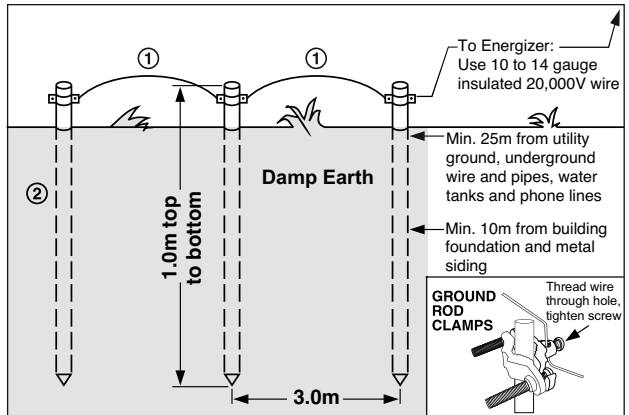

Figure 2
- Refer to **Figure 2** for a typical **Ground System set up**.